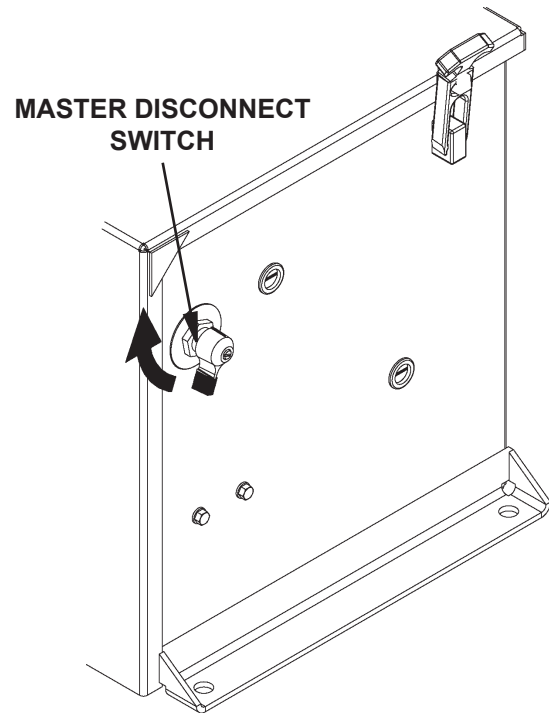

FIG. 7-1
5. Rotate master disconnect switch clockwise (**FIG. 7-1**) to turn on power to pump box.